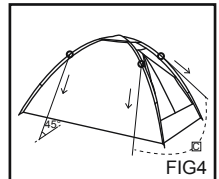

FIG4
7. Tie one end of the guy ropes <C> onto the four corner hoops of outer tent <A>. (FIG4)
8. Tie the other end onto the tent pegs <D> and fasten them by inserting the tent pegs <D> into ground. (FIG4)